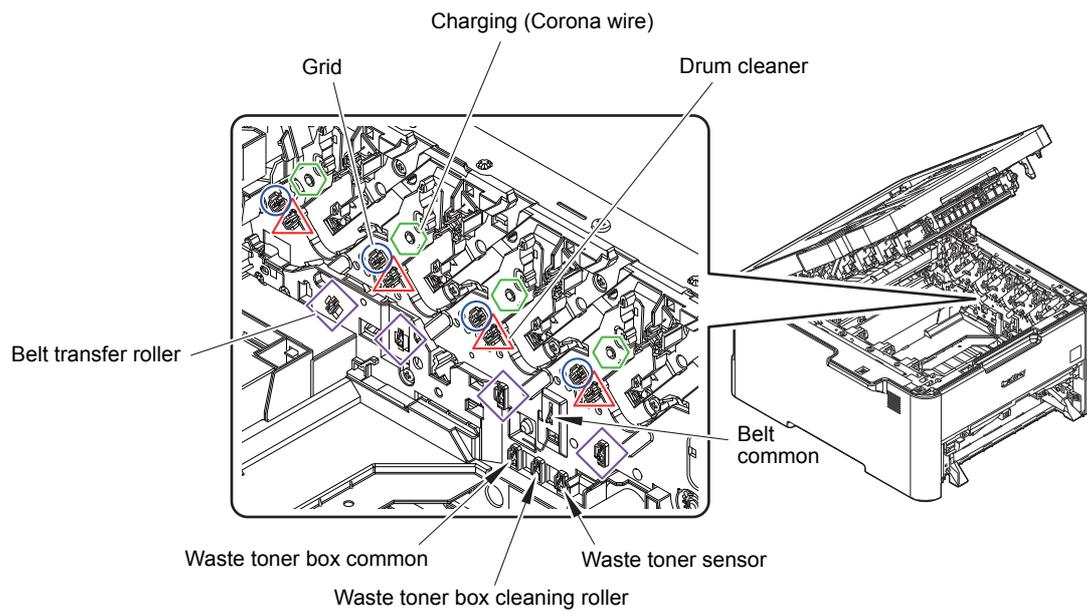
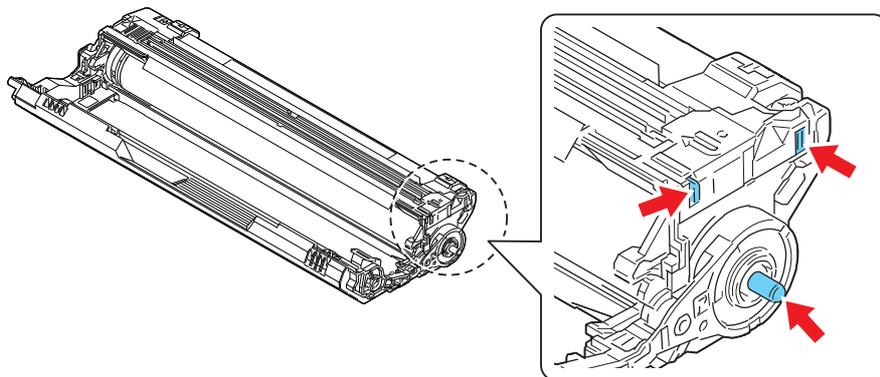

Fig. 2-6
Fig. 2-7
| 1 | Dirt on the developing terminal of the machine | Clean the developing terminal of the machine. (Refer to Fig. 2-6 (P2-63).) |
| 1 | Dirt on the electrified (corona wire) terminals or GRID terminals of the drum unit and those of the machine | Clean the electrified (corona wire) terminals or GRID terminals of the drum unit and those of the machine. (Refer to Fig. 2-6 (P2-63) and Fig. 2-7 (P2-63).) |
| 1 | Dirt on the electrodes of the waste toner box and those of the machine | Clean the electrodes of the waste toner box and those of the machine. (Refer to Fig. 2-6 (P2-63).) |
- Clean the electrode of each drum unit. (Refer to Fig. 2-7 \(P2-63\).)
| 1 | Dirt on the GRID terminals of the machine | Clean the GRID terminals of the machine. (Refer to Fig. 2-6 (P2-63) .) |